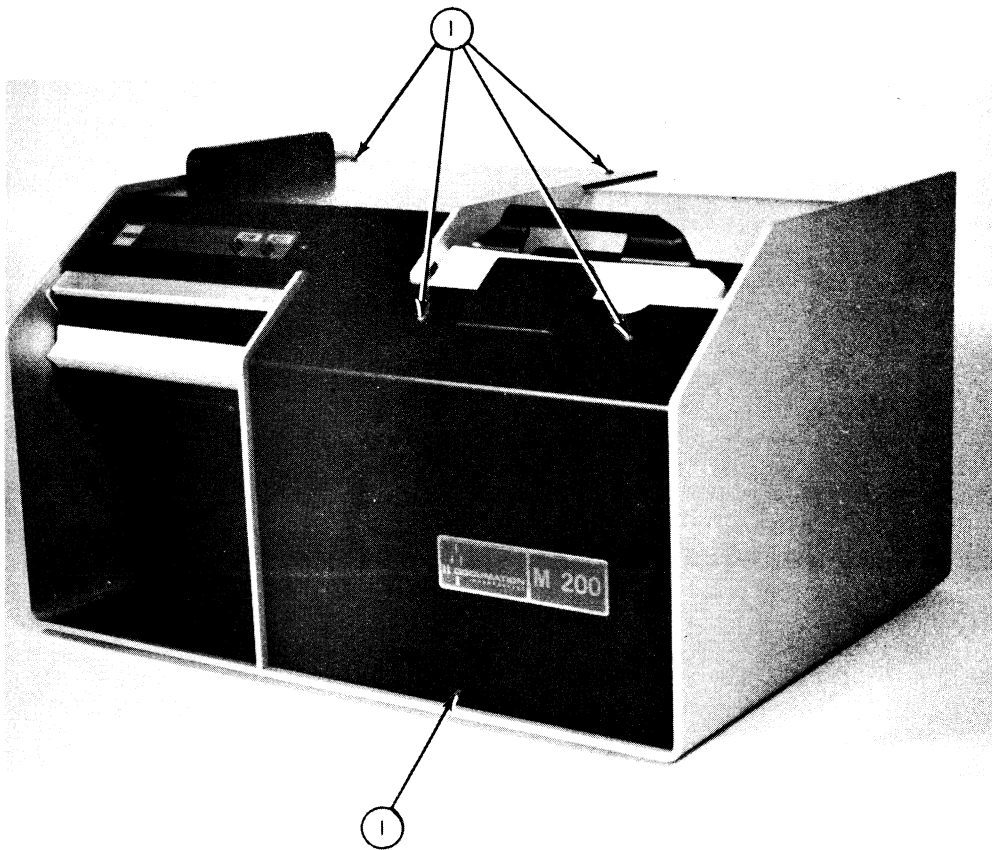

Figure 9-1. Top Cover Removal
After each 160 hours of operation, the card track should be cleaned. Using a 5/64 Allen wrench, remove five screws ①, Figure 9-1 holding top panel cover. Remove this cover and use a vacuum cleaner to remove any card debris buildup around the picker and stacker castings. Use a small brush to clean around the picker and stacker rollers and picker sector.
- a. Using a 5/64 Allen wrench, remove five screws ①, figure 9-1, which hold top cover.